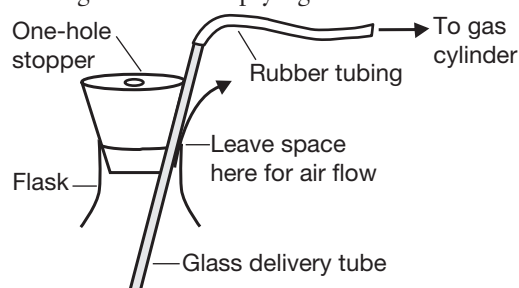

Figure 1.
1. Place the glass delivery tube in the flask and loosely insert the stopper beside the delivery tube (see Figure 1).